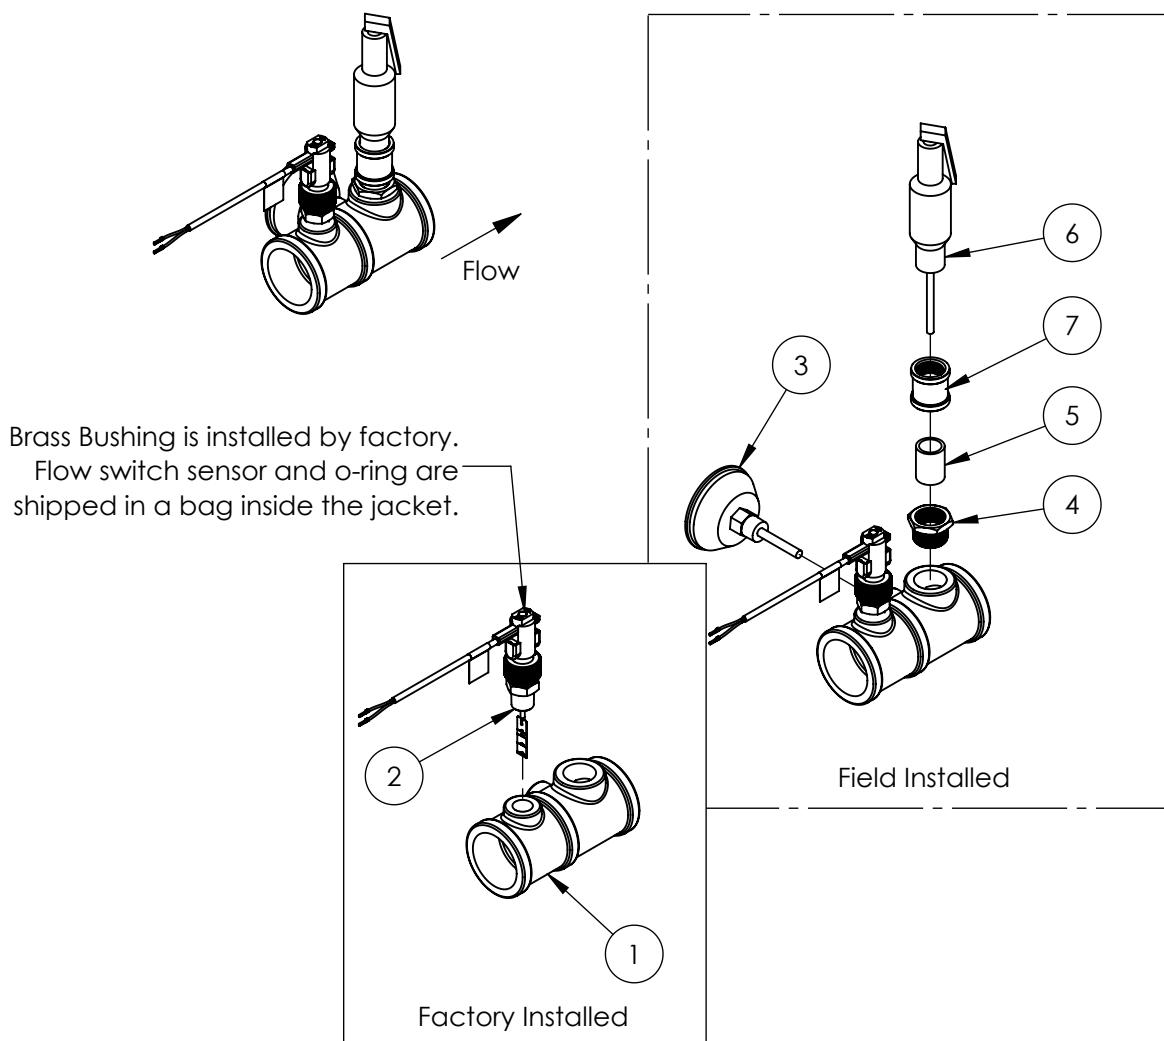

Figure 18: Relief Valve Package Assembly
2. The hot water supply line shall be connected to the outlet piping of the appliance shown in Figure 18.
1. The relief valve, T&P gauge, and required fittings ship loose with the appliance. These parts must be installed to the outlet as shown in Figure 18.
- a. This appliance is shipped with a temperature and pressure (T&P) relief valve complying with the standard for relief valves for hot water supply systems ANSI Z21.22 • CSA 4.4. Must be field installed as shown in Figure 18.